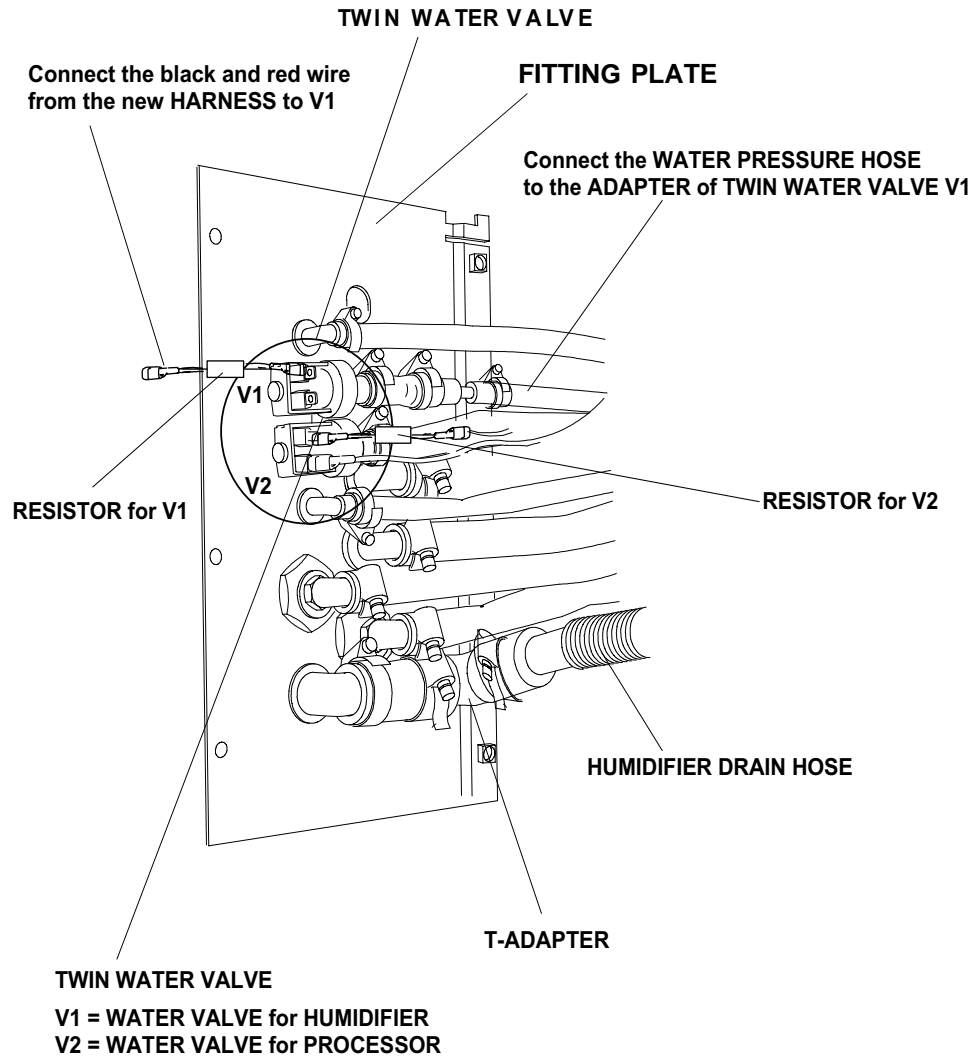

figure 2-15
- 35.** Replace the existing FITTING PLATE (see figure 2-15) with the FITTING PLATE from the MOD-KIT. There is not enough space between the FITTINGS to install the new TWIN WATER VALVE between them. Therefore the new altered FITTING PLATE has to be installed. Discard the old SINGLE WATER VALVE.
- 36.** Install the TWIN WATER VALVE. See figure 2-15.
- 37.** Connect the black WIRE from the new HARNESS to one TERMINAL of the **top** WATER VALVE V1. This is the WATER VALVE for the HUMIDIFIER. Connect the red WIRE with the 56 Ω RESISTOR in line, to the other TERMINAL of V1. See figure 2-15.
- 39.** Connect the WATER PRESSURE HOSE to V1 of the TWIN WATER VALVE. Secure the hose with a HOSE CLAMP. As in figure 2-15.